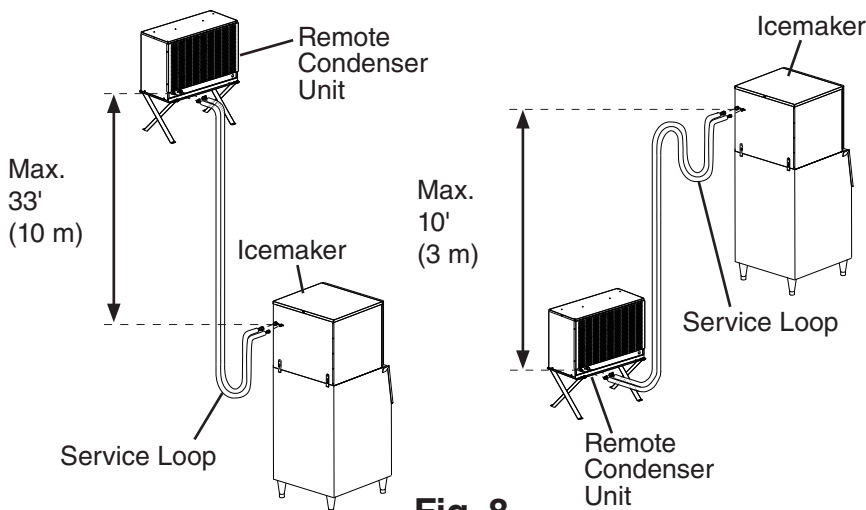

Fig. 8
- The maximum vertical distance between the remote condenser unit and the icemaker is 33' (10 m) above or 10' (3 m) below the icemaker. These distances are measured fitting to fitting. See Fig. 8.